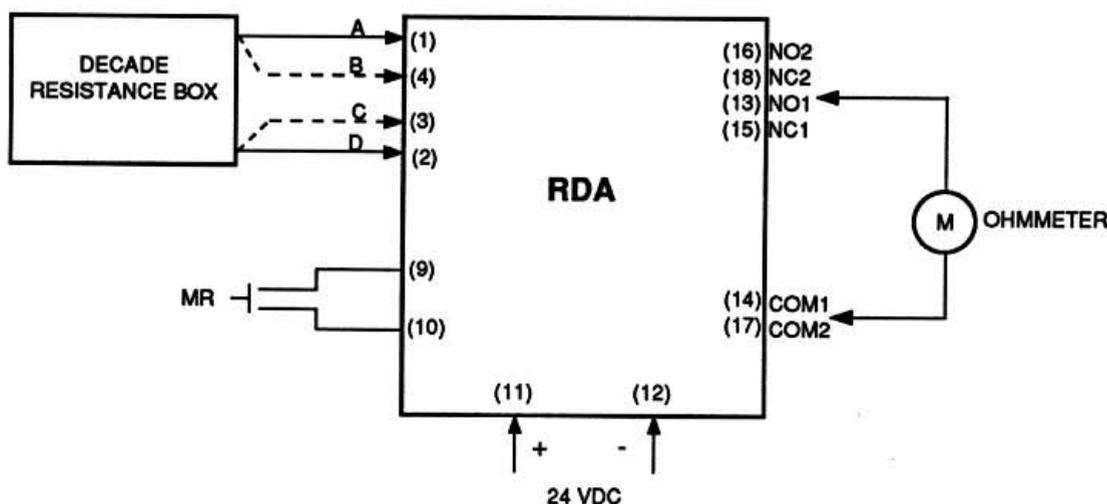
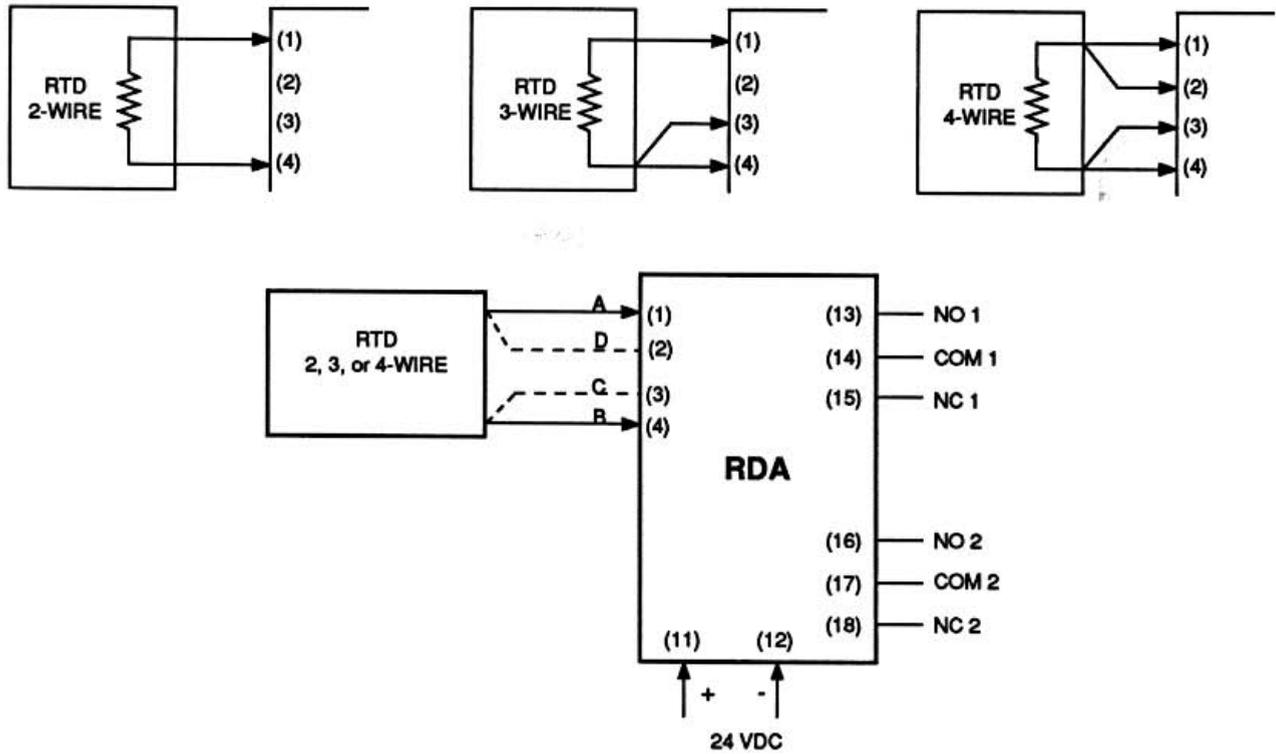
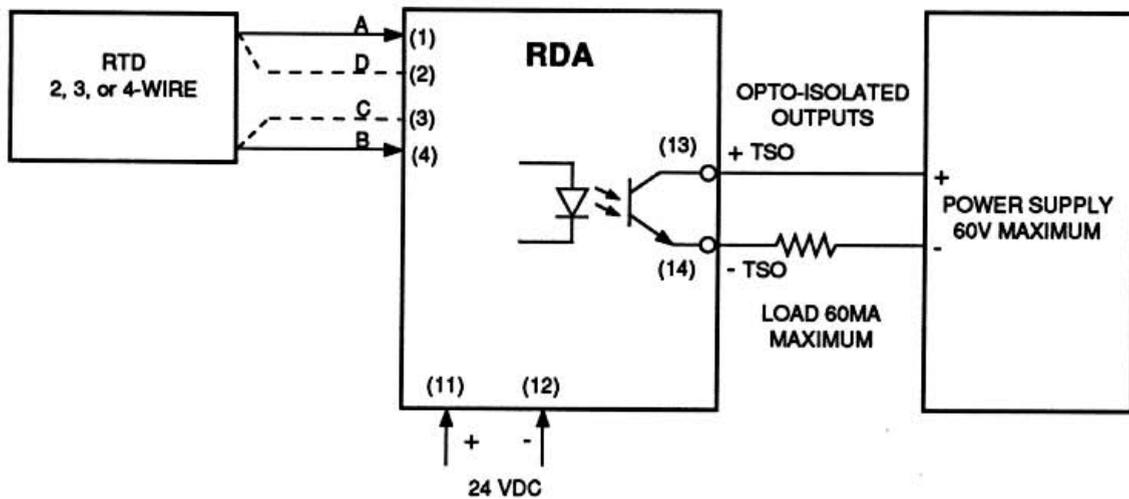
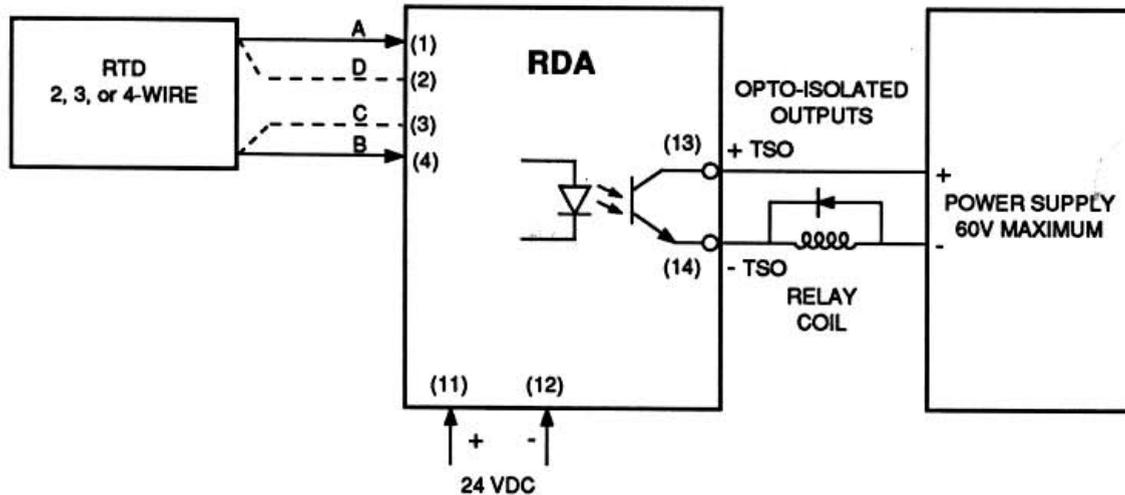

Figure 4. Calibration Setup for Single Alarm Units with Relay Outputs
Figure 9. Hookup Diagram for 2-, 3-, or 4-Wire RDA with Relay Outputs
Figure 10. Hookup Diagram for Opto-isolated Outputs and Load Resistor
Figure 11. Hookup Diagram for Opto-isolated Outputs and Relay Coil
Off-line calibration for all RDA units generally requires the same test equipment setup. Separate configurations are shown for clarity. The calibration setups for single alarm units are shown in figures 4
2. Connect decade resistance box to input of RDA. Connect an 18- to 30-Vdc power source. See figures 4 through 7. (See figure 9 in the Installation Section for 2-, 3-, and 4-wire RTD hookups.)
Figure 9 is a typical hookup diagram for a unit with relay outputs. Figure 10 is a typical hookup diagram for a unit with opto-isolated outputs and a load resistor. Figure 11 is a typical hookup diagram for a unit with opto-isolated outputs and a relay coil. Note that a diode must be put in parallel with the relay coil as shown in figure 11 to prevent damaging the transistor. The diode "clamps" the applicable voltage in the event of a coil-induced switching transient. The RDA operates from an 18- to 30-Vdc power source.